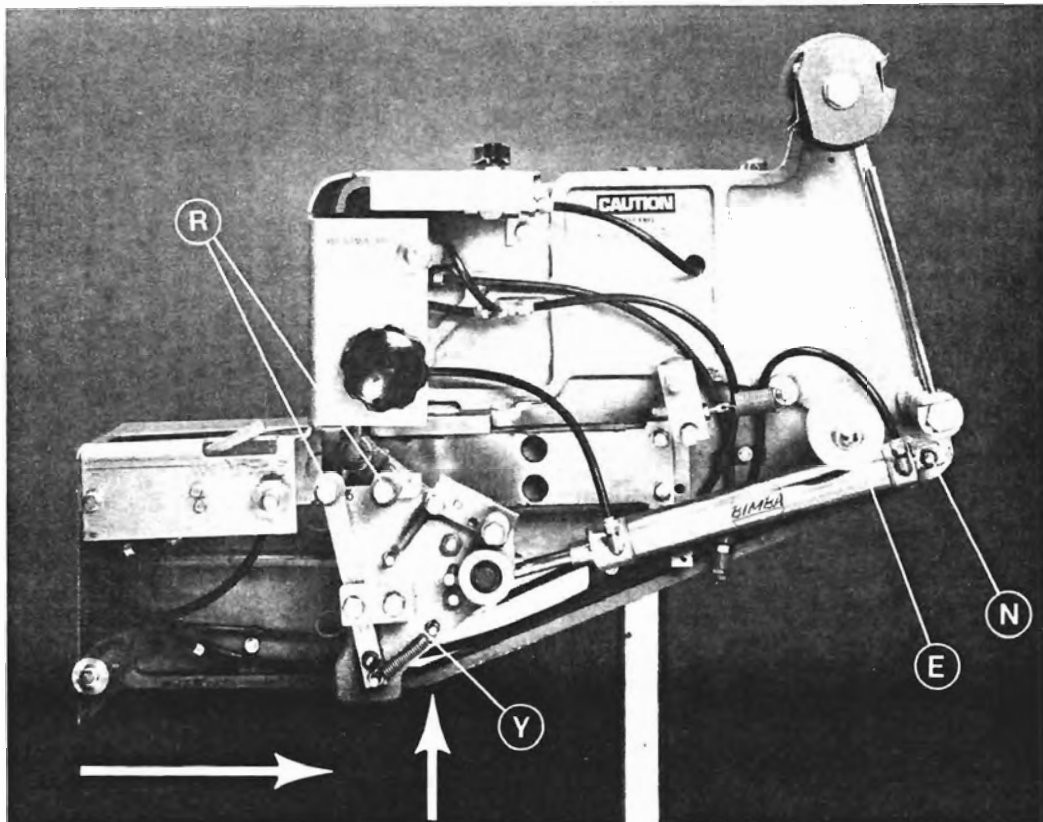

FIGURE 9 - ADJUSTMENT
Tape Tension Roller - The friction brake on the tension roller assembly (E, Fig. 9) controls the tape web tension to prevent tape web sag. The tension roller friction brake has been preset and requires no further adjustment. If the tension roller assembly is replaced or comes out of adjustment, adjust as follows to obtain the proper tape web tension.
Refer to Figure 9
- C. Buffing Arm Pivot Block - refer to Figure 9. Lubricate periodically through holes provided on top of block (Y).
- D. Air Cylinder Pivot - refer to Figure 9. Lubricate air cylinder pivot stud (N) periodically.